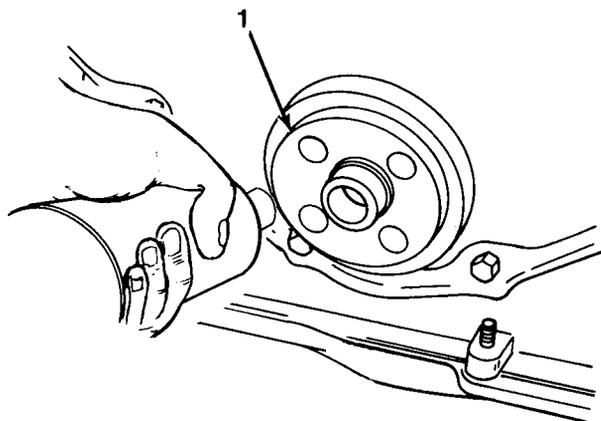

Figure 6-2
3. Drill two holes 180 degrees apart to relieve tension on front seal (1).
4. Using a slide hammer fitted with a sheet metal screw, remove and discard front seal (1, Figure 6-2).